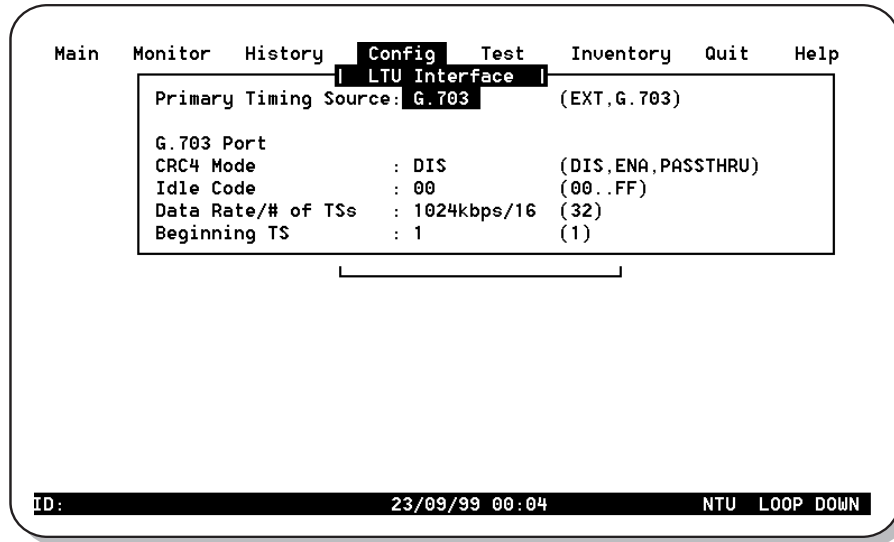

Figure 22. Config LTU Interface Menu
- **L** for the *Config LTU Interface* menu (Figure 22).